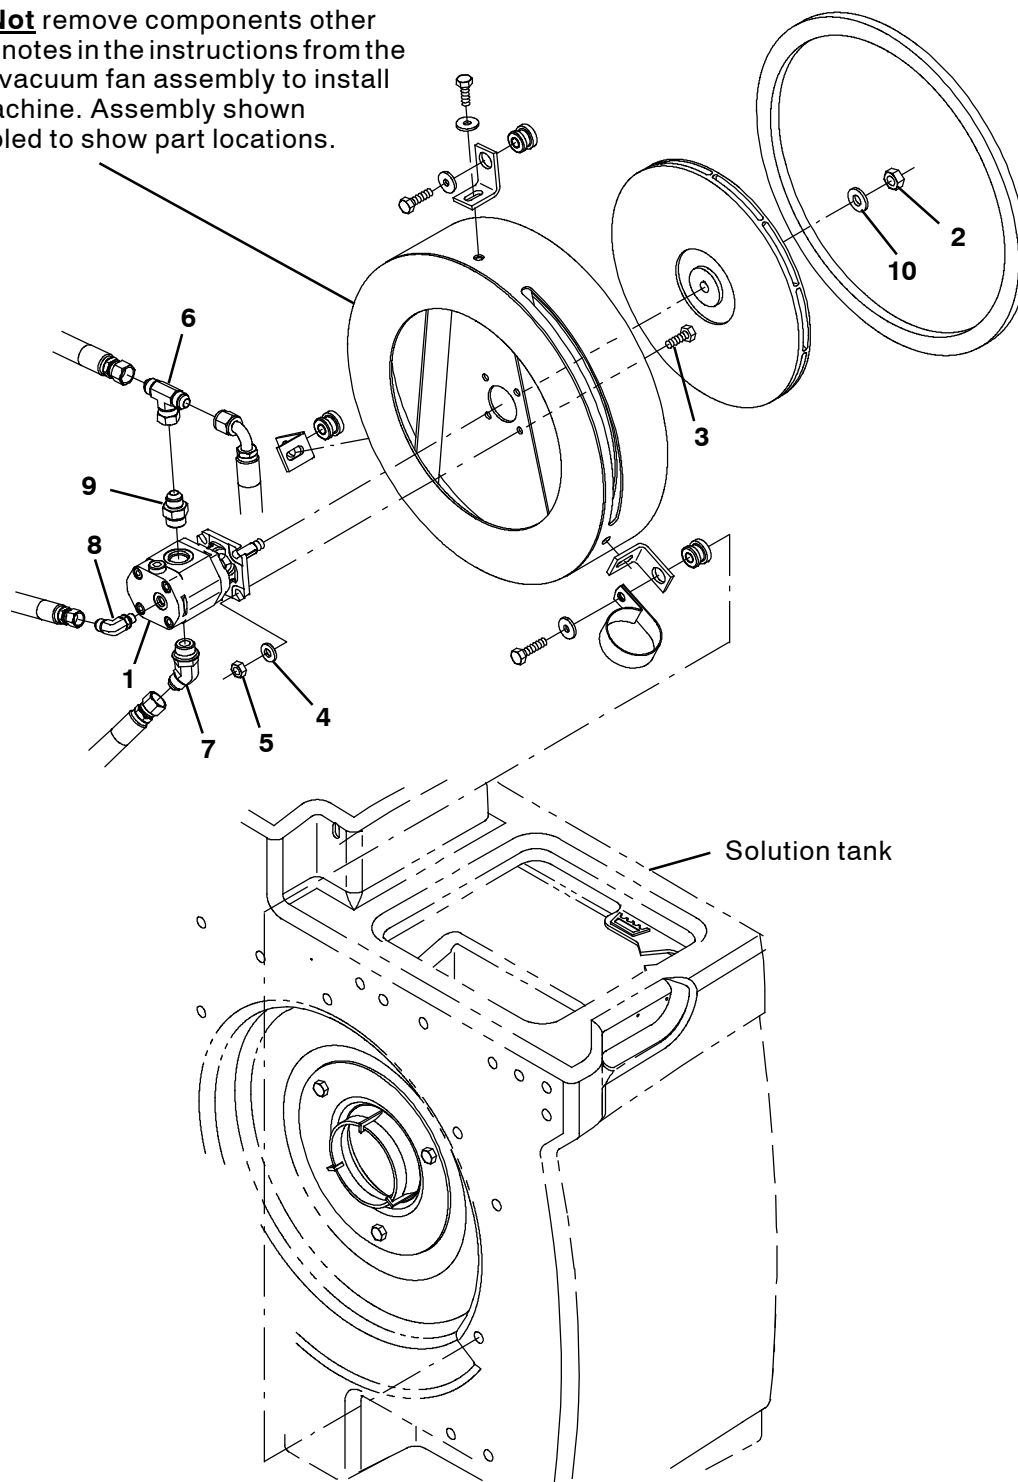

FIG. 9
7. Remove the scrubbing vacuum fan assembly from the solution tank. Set the cable clamp and all hardware aside. (Fig. 9)
8. Remove the scrub fan motor from the scrubbing vacuum fan assembly. Set the vacuum fan assembly and all hardware aside. Discard the scrub fan motor and all fittings installed on the motor. (Fig. 9)
10. Pry the impeller from the scrubber vacuum fan. Set the impeller aside. (Fig. 9 / Fig. 11)
16. Use four M8 hex screws (3), four washers (4), and four M8 hex nuts (5) to install the hydraulic motor (1) onto the scrubber vacuum fan housing. (Fig. 9)
17. Apply a light coat of anti-seize lubricant onto the shaft of the hydraulic motor (1).
18. Place the impeller onto the hydraulic motor (1) shaft. (Fig. 9)
19. Apply a light coat of Loctite® 242™ onto the threads of the M12 hex nut (2).
20. Use the M12 hex nut (2) and Belleville washer (10) to secure the impeller onto the hydraulic motor (1). (Fig. 9)
21. Reinstall the scrub vacuum fan onto the solution tank. (Fig. 9)